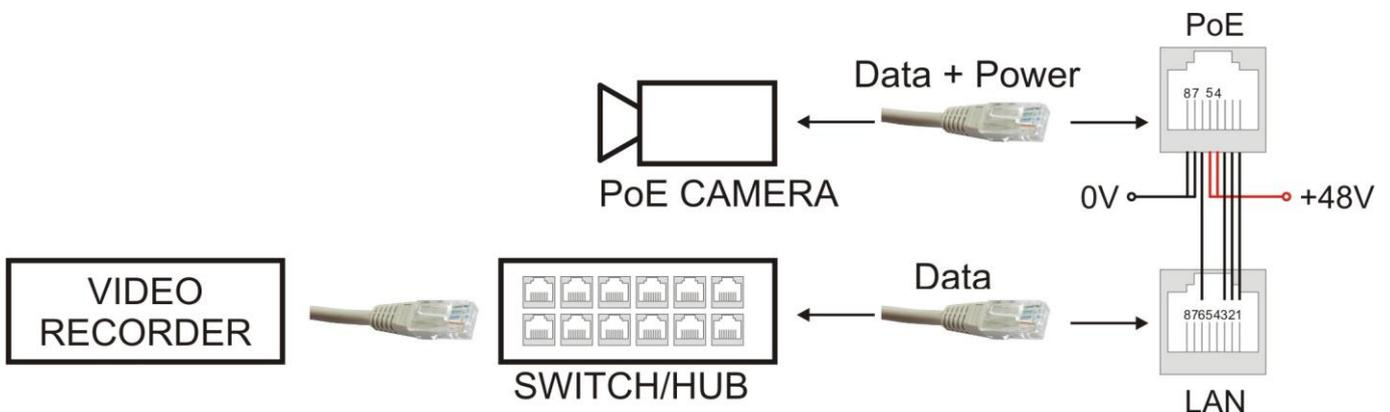

Fig. 4. Connection of cameras and network devices to the LAN and PoE terminals.
4. Connect the network cables (Ethernet) to the PoE module: supply voltage is present only at the PoE sockets and the cameras should be connected to them. Connection diagram is shown in Figure 4: